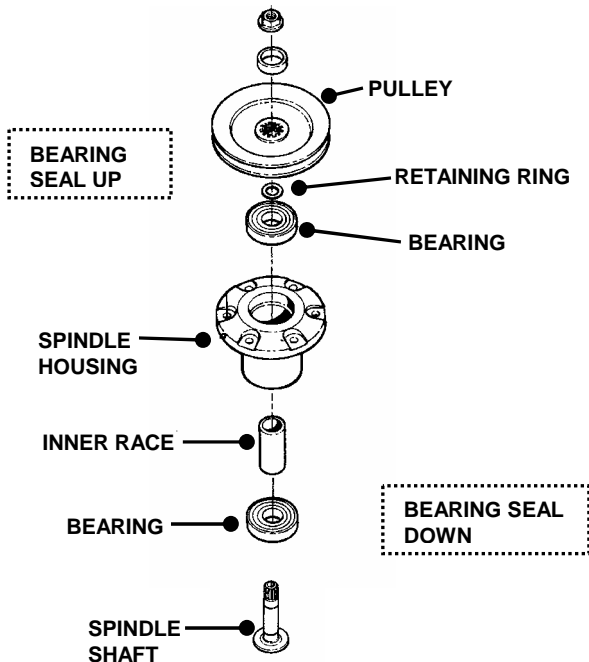

FIGURE 4.16
4. Top and bottom bearings are now removable. Pull out on inner race to slide bearing from housing. See Figure 4.16.